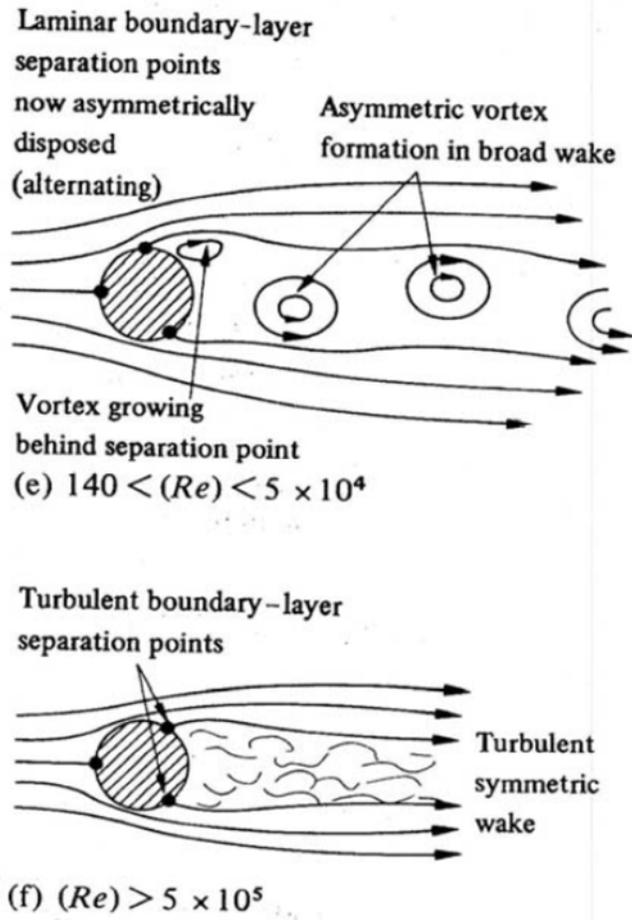

Figure 7. Flow around bodies – large Re numbers⁵.
- For still larger Re , inertial forces begin to dominate the viscous forces – the flow no longer wants to stick to the body, but rather is “thrown” far from the body upon separation (Figure 7).